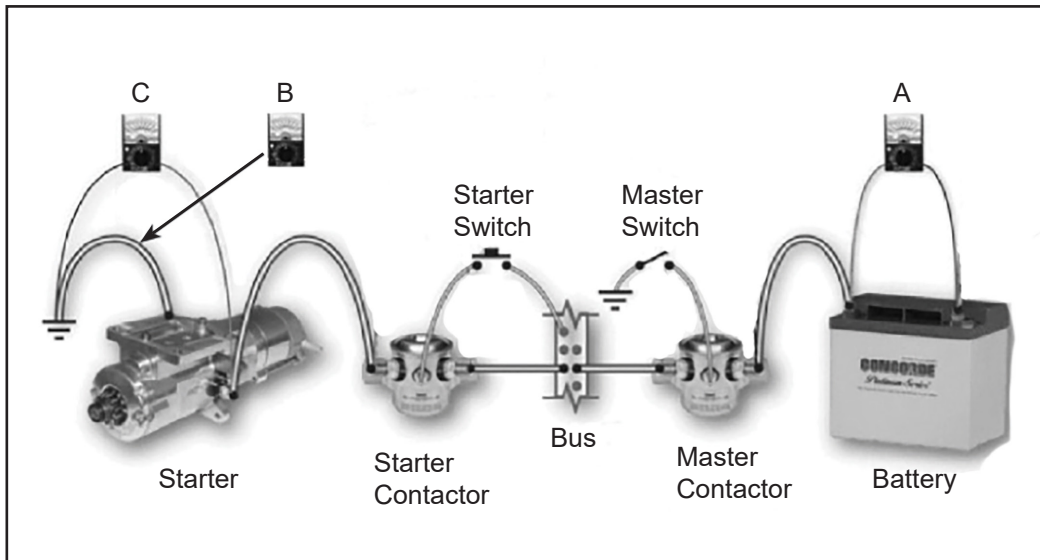

Figure 3.1 – Typical Starter Troubleshooting Diagram
- A. Visually inspect the starter and starter system components for frayed and/or burnt wiring and loose connections. Correct any defects noted. See Figure 3.1 for component diagram.
- (1) Ground the magneto P-leads by connecting an electrical conductor from the P-lead terminal to the airframe ground. This will prevent the magneto from making a spark.
- (2) Set fuel mixture to the Lean Cut-Off position.
- (3) Set electrical boost pump to the OFF position.
- (4) Set fuel selector valve to the OFF position.
- C. Perform the following resistance/voltage checks using a VOM to determine where in the system the problem is originating. Refer to Figure 3.1 for items A thru C.
- (1) Connect the VOM between the negative and positive post of the battery (A) and record the voltage reading. Voltage reading should be a minimum of 9 volts on a 12/14 volt battery and 18 volts on a 24/28 volt battery. If the battery voltage is low, refer to the applicable aircraft/engine maintenance manual to recharge or replace the battery.
- (2) Connect the VOM probes between the airframe and the housing of the starter (B). Record the resistance reading. Maximum resistance allowed is 0.2 ohms. If greater than 0.2 ohms, investigate the engine to airframe ground.